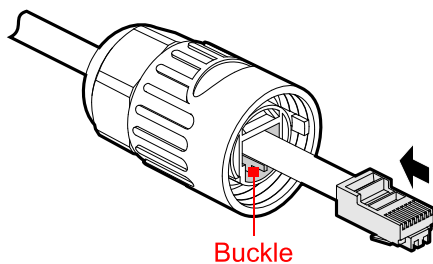

Figure3-31 Buckle position
- Step 2 After crimping, insert the RJ45 plug into the buckle (as shown in Figure3-31), and then fasten the lock nut.